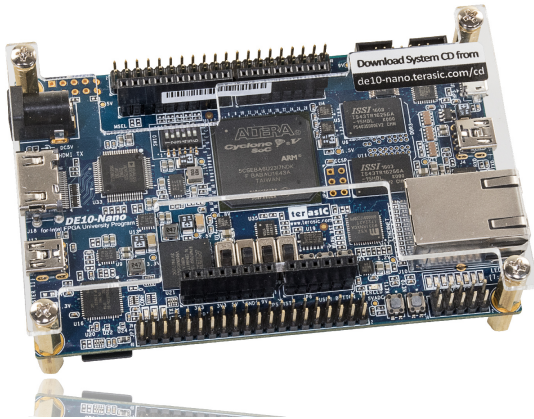

Figure 1.1: Altera DE10-NANO development board <https://www.terasic.com.tw/cgi-bin/page/archive.pl?Language=English&No=1046>
- The Altera DE10-NANO, an FPGA development board, shown in Figure 1.1, of which *both* the FPGA (Cyclone 5) and the ARM processor (realised on chip in the so-called *HPS* – Hard Processor System) are used.
- The combination of an Altera DE10-NANO, Figure 1.1, and a Raspberry Pi, Figure 1.2. The Raspberry Pi is an ARM *Computer on Module* configured to use linux in this course.